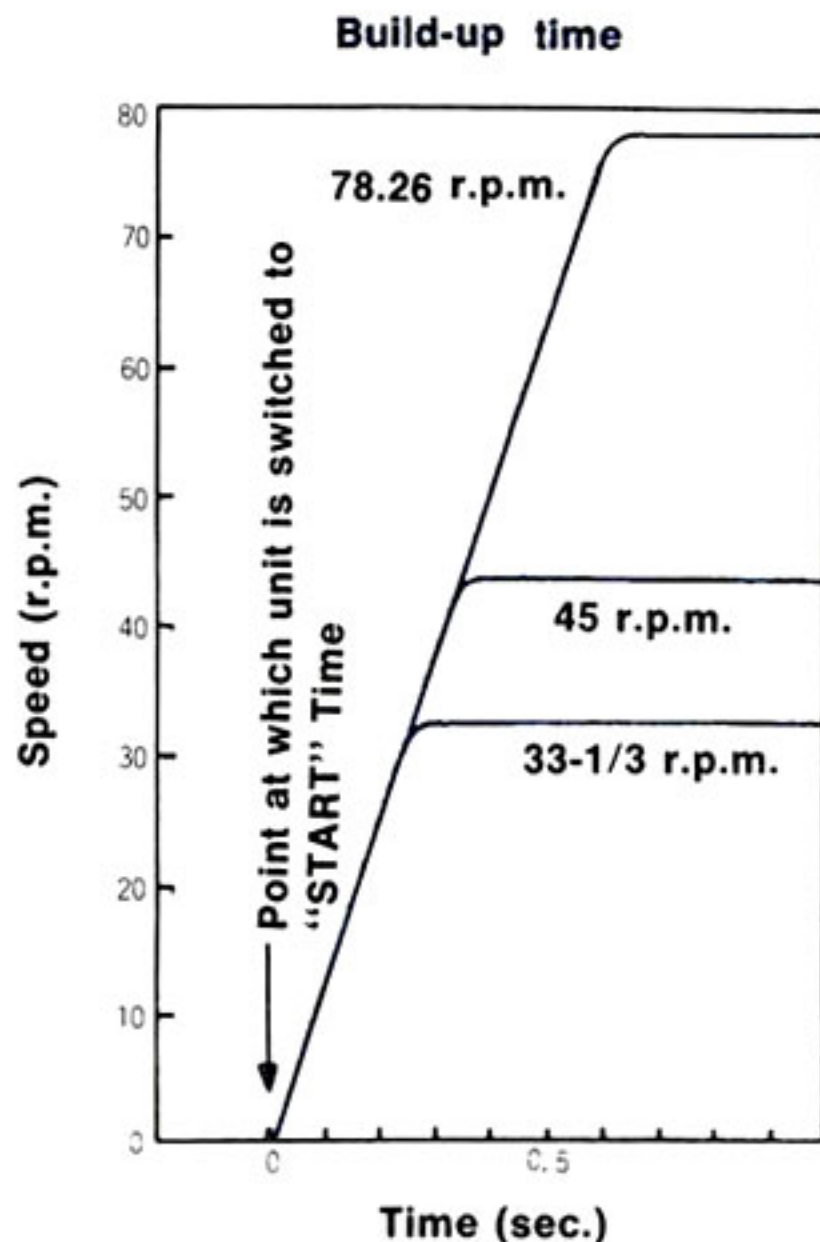

Fig. 11
② INSTANT STARTING FOR ACCURATE CUEING (Fig. 11) (a build-up time of only 0.25 sec. at 33-1/3 r.p.m.)